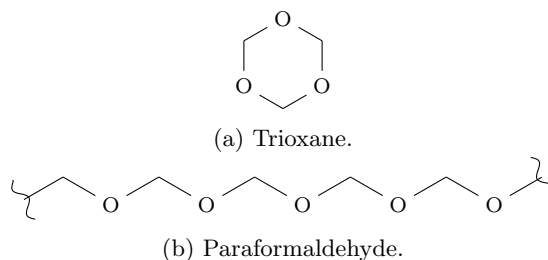

Figure 16.11: Anhydrous nongaseous formaldehyde forms.
- Outside of the gas phase (and aqueous solution), formaldehyde is very unstable; it will either exist as **trioxane** or **paraformaldehyde** (see Figure 16.11).